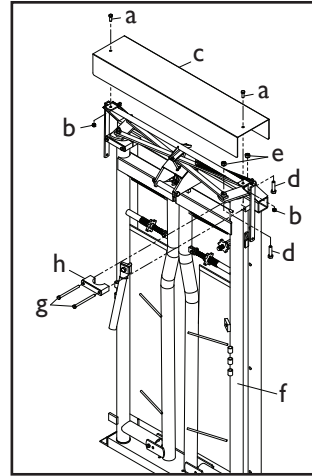

Figure 6: Removing gate doors
4. To remove the door, first remove the 2 bolts (a) and nuts (b) that hold the headgate roof (c) in place and lift the roof off of the headgate (Figure 6).
5. Next, remove the 2 bolts (d) and nuts (e) that connect the door (f) to the door links (Figure 6).
6. Remove the 2 bolts (g) that hold the top bushing (h) in place (Figure 6). With everything removed, the door will be free to lift up and out of the way, allowing the animal to safely exit the headgate.